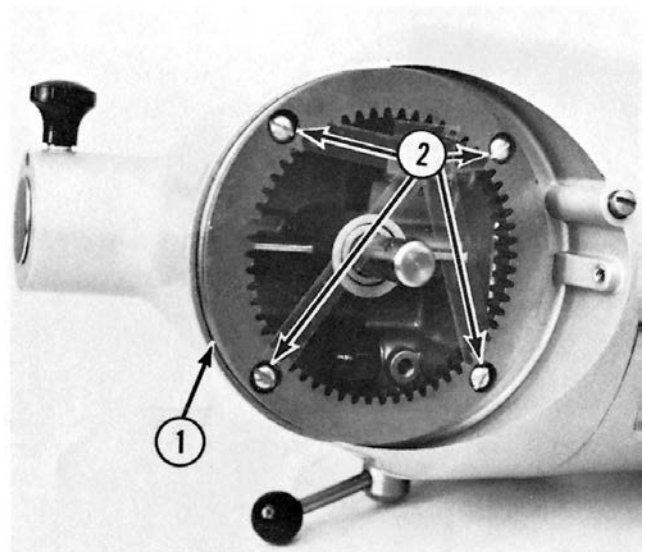

Fig. 2-6
- B. To remove the internal gear (1, Fig. 2-6), take out the four screws (2, Fig. 2-6).